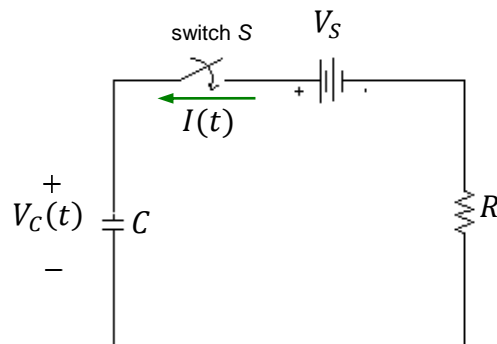

Figure 9
- Using your RC circuit board, construct the circuit shown in Figure 9. To do this, **all you need to do is use the hook-up wire included to connect terminals A and B on the circuit board.** All of the other connections shown in Fig. 9 are already made by solder traces on the board.